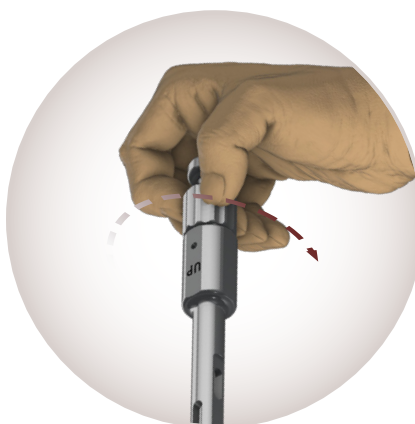

Figure 63.
Loosen the remover/repositioner tip from the implant endplate by rotating the proximal knob of the Introducer three (3) full turns in the counterclockwise direction (Figure 63).